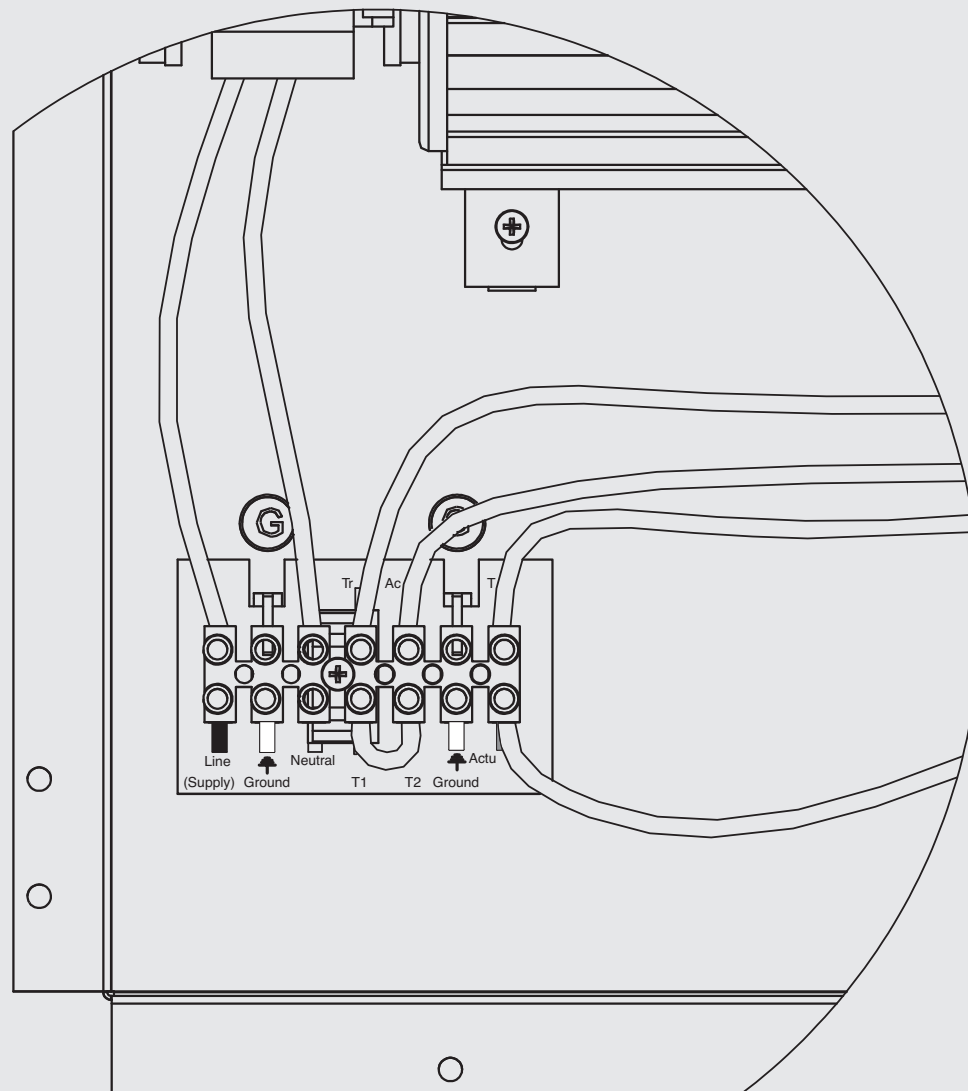

Fig. 2
- The WHISPA III® RCU fan convector is designed so that the piping and wiring connections are made within the cabinet of the unit itself. The installer should inspect the unit and note that the $\frac{1}{2}$ " piping should enter on the lower right corner of the unit and the 120V AC wiring for the unit enters on the lower left hand corner of the unit, see Fig 2.